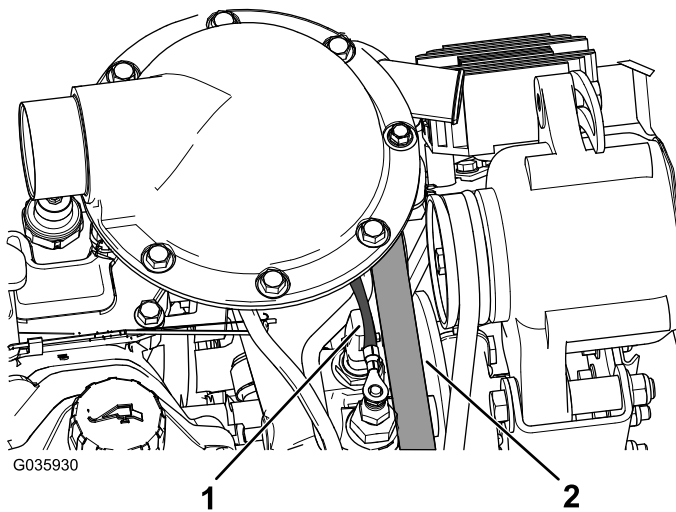

Figure 12
4. Using cable ties, secure the engine crossover tube and engine wire harness away from the alternator belt (Figure 12).